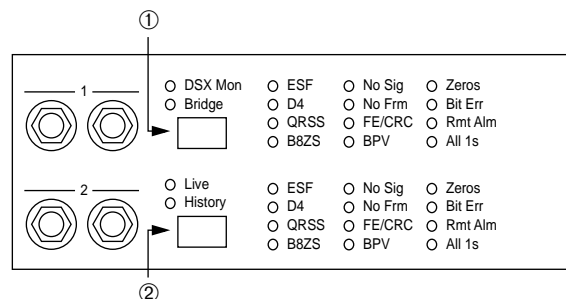

Figure 2-1 Signaling Bit Monitor area of the front panel
The DSX Mon/Bridge key is located next to the 310 jacks (see ① in Figure 2-1). The 375A will terminate the line from the DSX Monitor jack in a 100 Ohm characteristic impedance.
The Live/History key is next to the 310 jacks (see ② in Figure 2-1).